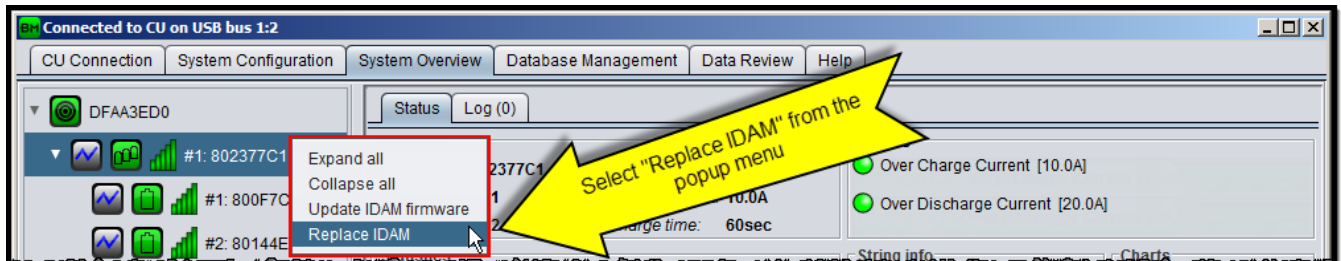

Figure 45: Replace IDAM
1. Right click on the string icon to activate the context menu as shown on Figure 45.